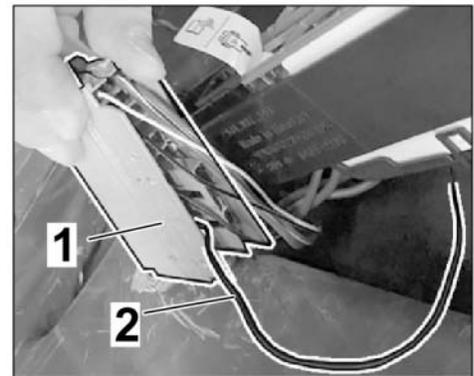

Figure 11
- 2.13 Lay the line  $\Rightarrow$  Figure 11 -2- behind the fuse box and pin it into socket A5  $\Rightarrow$  Figure 11 -1-. Insert fuse (5A) in socket A5. Clip white fuse strip into the fuse box and lock it using the locking clip. Install fuse box.